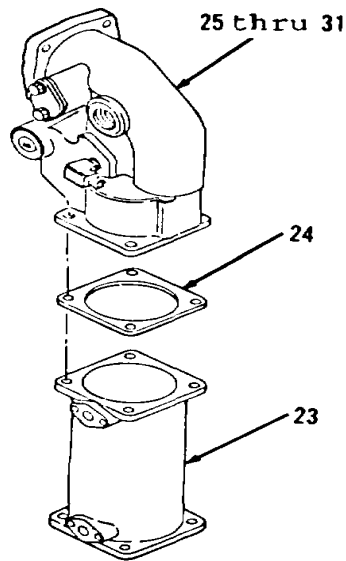
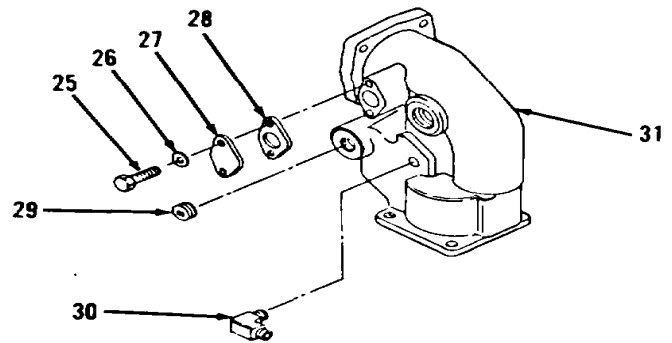

Figure 5-64.
Figure 5-65.
3. Remove transmission oil cooler core (23), gasket (24) and items 25 thru 31 as an assembly (Figure 5-64). Discard gasket (24). Remove all gasket material from mounting surfaces.
4. Remove two bolts (25), washers (26), cover (27) and gasket (28) from bonnet (31, Figure 5-65). Discard gasket (28). Remove all gasket material from mounting surfaces.
5. Remove plug (29).
6. Remove elbow (30).
1. Install elbow (30) on bonnet (31, Figure 5-65).
2. Install plug (29).
3. Install new gasket (28), cover (27), two washers (26) and bolts (25).
4. Position items 31 thru 25 as an assembly and new gasket (24) on top end of transmission oil cooler core (23, Figure 5-64).